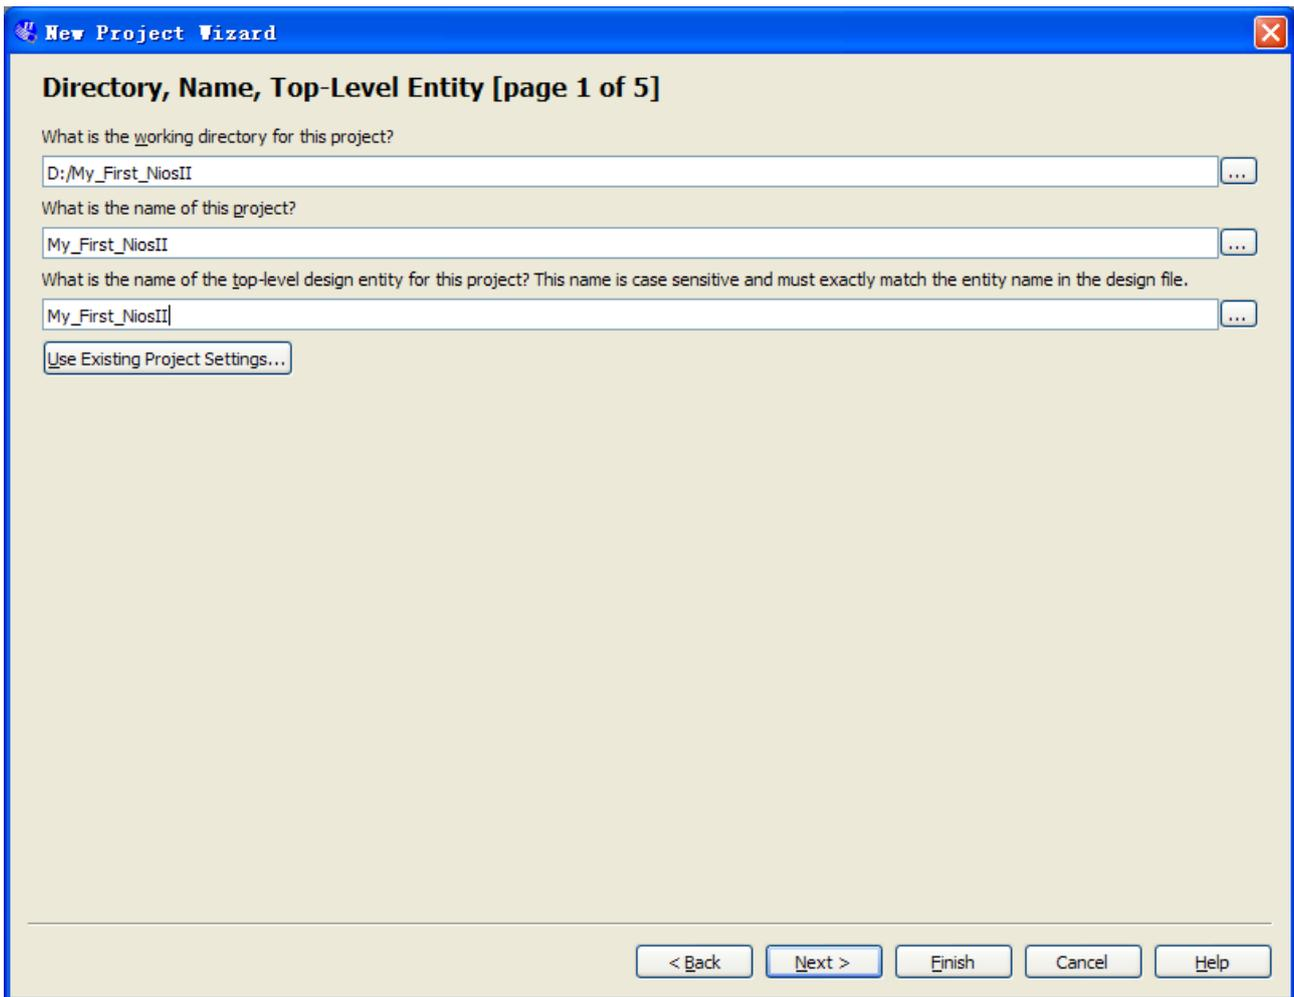
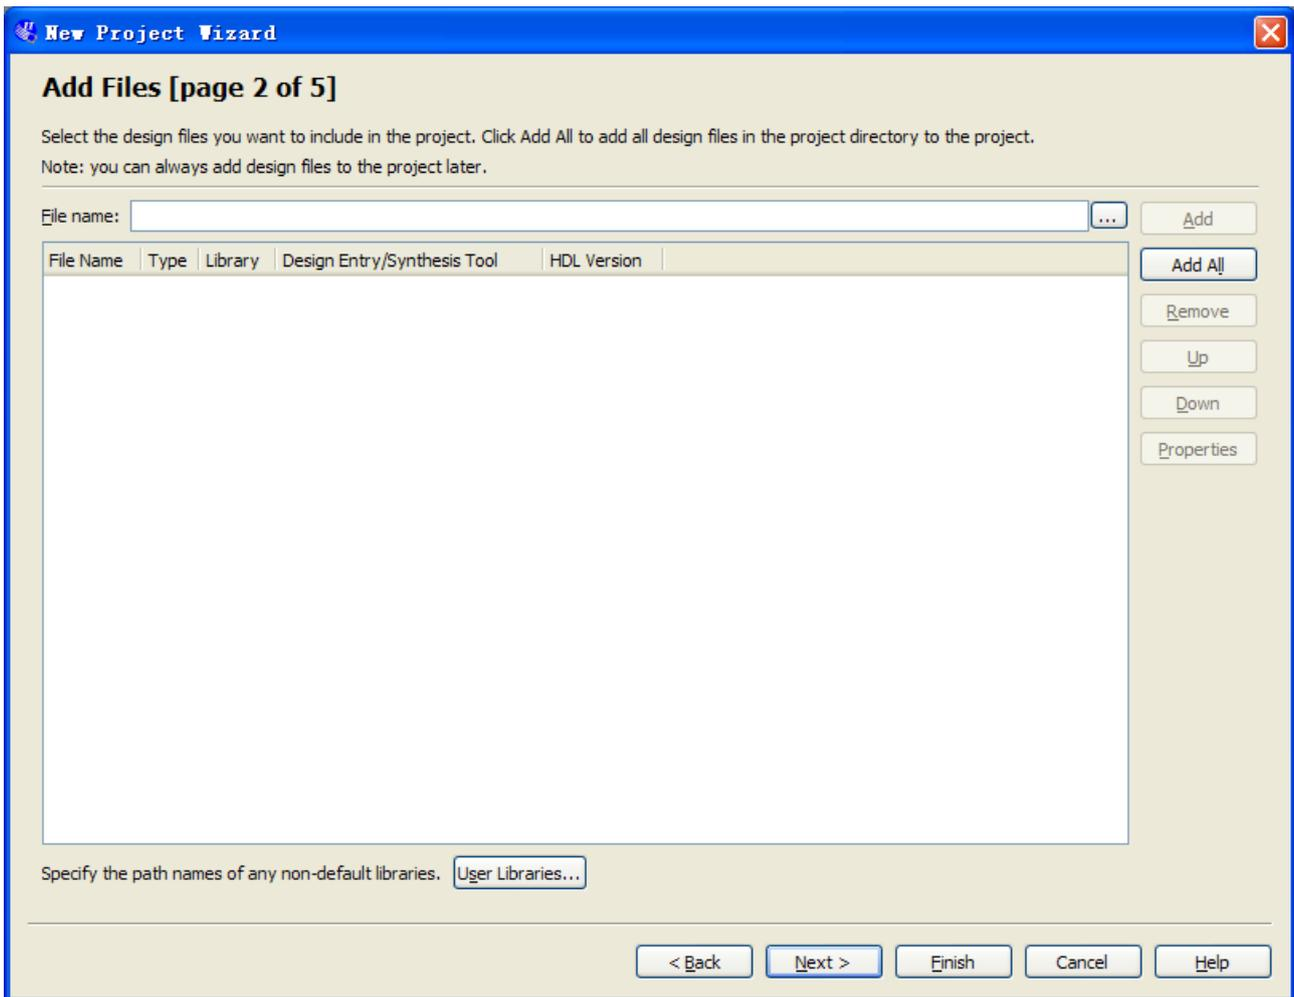

Figure 1-3 Input the working directory, the name of project, top-level design entity
Figure 1-4 New Project Wizard: Add Files [page 2 of 5]
2. Choose a working directory for this project, type project name and top-level entity name as shown in Figure 1-3. Then click **Next**, you will see a window as shown in Figure 1-4.